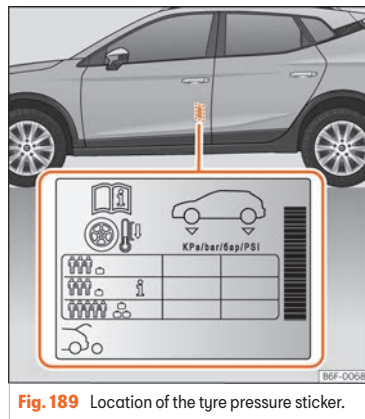

Fig. 189 Location of the tyre pressure sticker.
- Adjust tyre pressure to the load being carried by the vehicle »»» Fig. 189.
The values of the tyre pressure are shown on the sticker label located on the read frame of the front left door >>> Fig. 189.
The tyre pressure must be adjusted according to the load the vehicle is carrying. If the vehicle is going to be fully loaded, increase the tyre pressure to the maximum load value shown on the sticker label >>> Fig. 189.
In the case of a minimised temporary spare wheel (125/70 R16 or 125/70 R18) inflate to a pressure of 4,2 bar as indicated on the tyre pressure label >>> Fig. 189.
Depending on the vehicle, tyre pressure can be adjusted to medium load to improve driving comfort [tyre pressure **i** >>> Fig. 189]. When driving with comfort tyre pressure fuel consumption may increase slightly.
- The driver is responsible for ensuring that all of the vehicle tyres are correctly inflated to the right pressure. The recommended tyre pressure is indicated on the label >>> Fig. 189.
- Tyre pressure should be that indicated on the label when the tyres are cold at all times >>> Fig. 189.